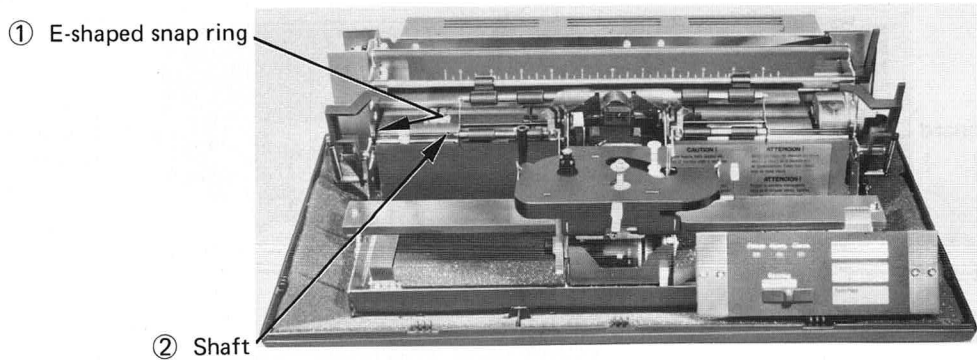

Fig. 5.38
Step 2. Removing E-shaped snap ring ①, draw out shaft ② and remove the feed roller unit. (Fig. 5.38)